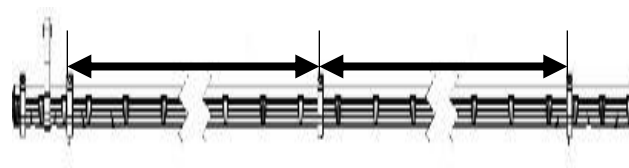

Figure 198
5. The center clamps are installed depending on the size of the header. On the 25 foot headers the clamps are installed 65 1/8" from the inside clamps. On the 30-50 foot headers the center clamps are placed 125 1/8" from the inside clamps. Figure 198